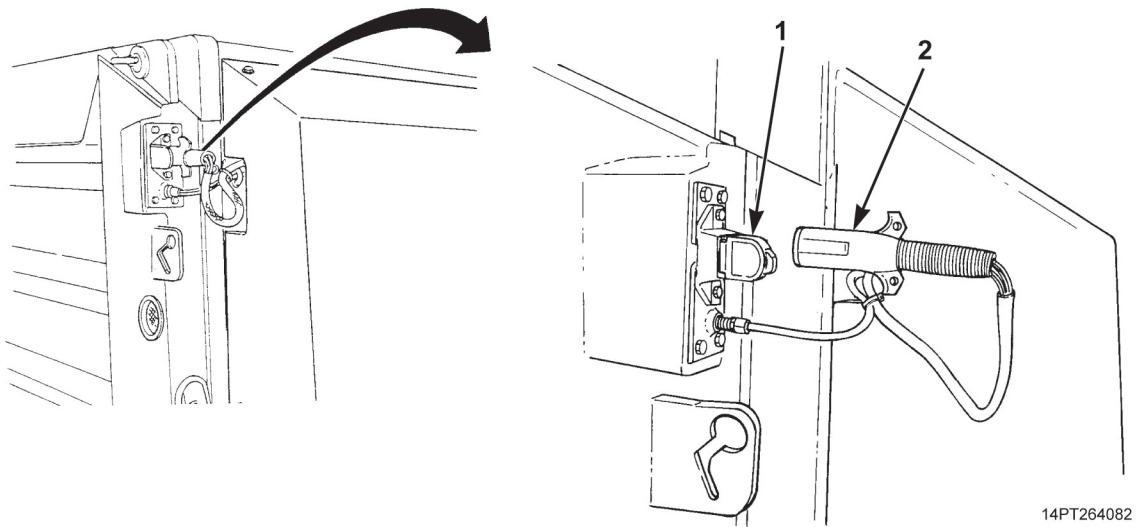

Figure 6. Truck-to-MCS Tailgate Wiring Harness Installation.
5. Connect MCS tailgate wiring harness connector (Figure 6, Item 2) to truck-to-MCS tailgate wiring harness receptacle (Figure 6, Item 1).